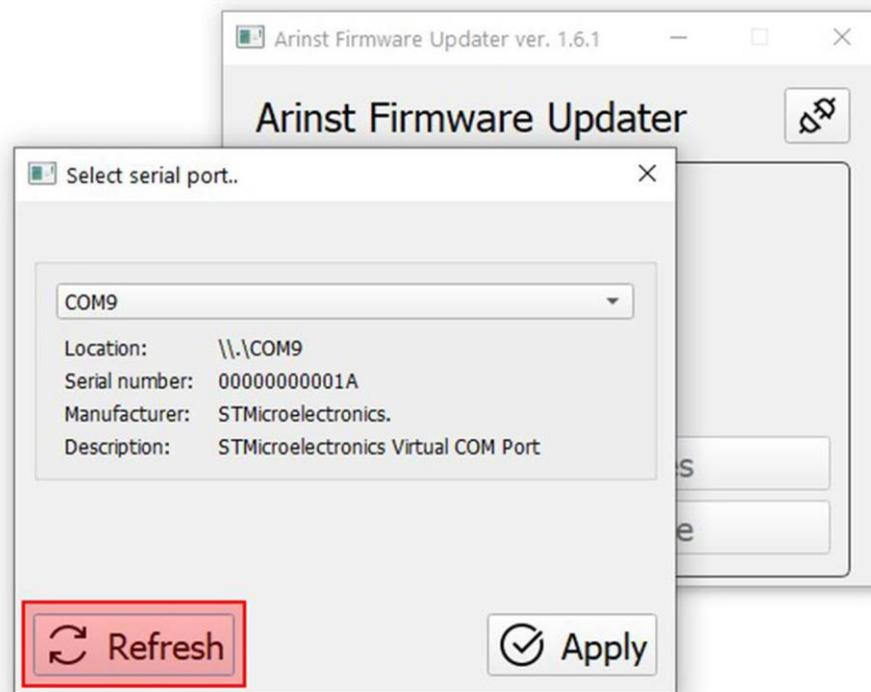

Figure A2.3 - Update the list of virtual PC ports
2.5. If the required port is not in the list of virtual ports, click the **Refresh** button, as shown in Figure A2.3.